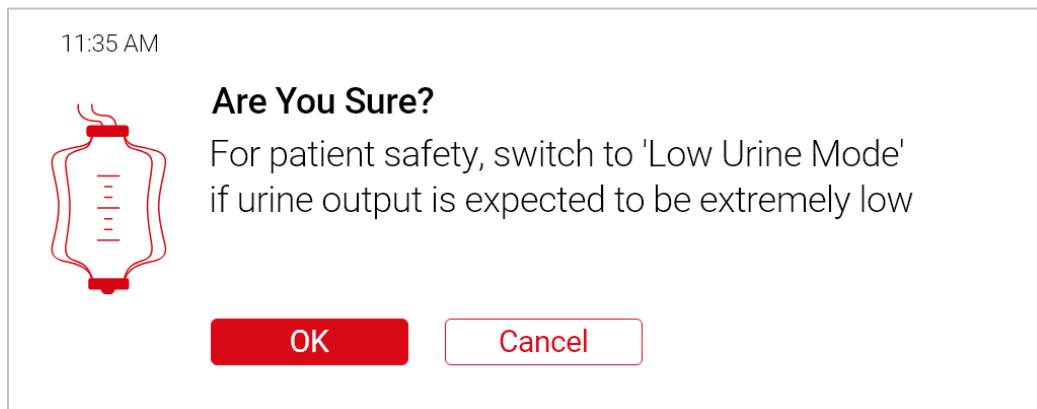

Figure 26 – Low Urine Verification Message
2. Press OK in the verification message (Figure 26)